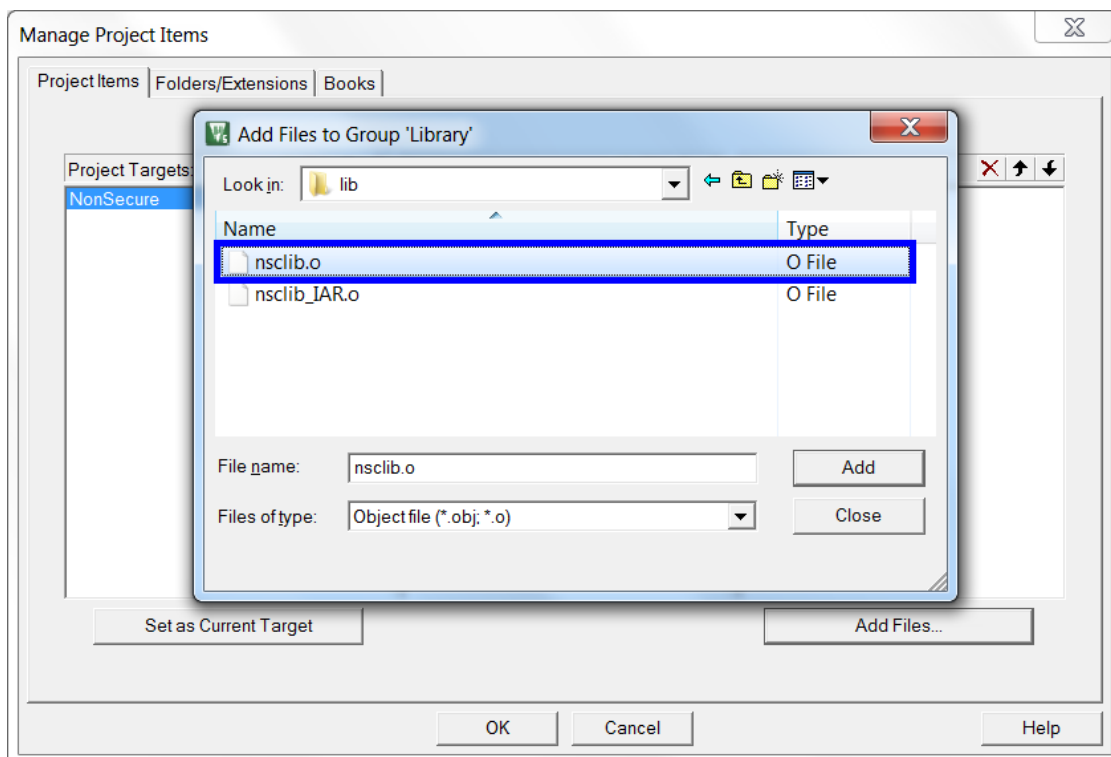

Figure 3-5 Add Non-secure Callable Library to Project in Keil® MDK
- Click [Manage Project Items] and then add an object file which is generated by non-secure callable provided by the first developer to this project, as shown in Figure 3-5.